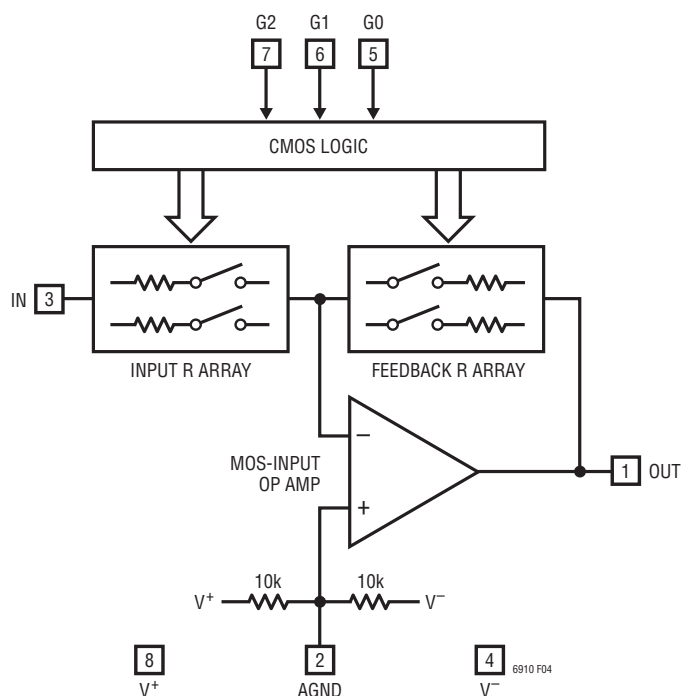
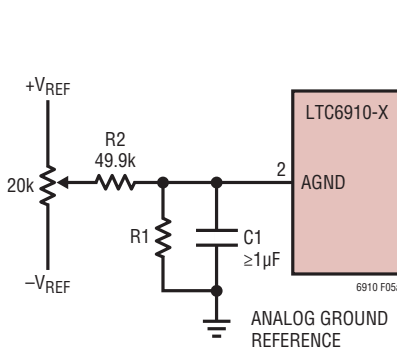

Figure 4. Block Diagram
Figure 5a. Offset Nulling
**AGND (Pin 2):** Analog Ground. The AGND pin is at the midpoint of an internal resistive voltage divider, developing a potential halfway between the  $V^+$  and  $V^-$  pins, with an equivalent series resistance to the pin of nominally 5k $\Omega$  (Figure 4). AGND is also the noninverting input of the internal op amp, which makes it the ground reference voltage for the IN and OUT pins. Because of this, very “clean” grounding is important, including an analog ground plane surrounding the package.
**IN (Pin 3):** Analog Input. The input signal to the amplifier in the LTC6910-X is the voltage difference between the IN and AGND pins. The IN pin connects internally to a digitally controlled resistance whose other end is a current summing point at the same potential as the AGND pin (Figure 4). At unity gain (digital input 001), the value of this input resistance is approximately 10k $\Omega$  and the IN voltage range is rail-to-rail ( $V^+$  to  $V^-$ ). At gain settings above unity (digital input 010 or higher), the input resistance falls. Also, the linear input voltage range falls in inverse proportion to gain. (The higher gains are designed to boost lower level signals with good noise performance.) Tables 1, 2, and 3 summarize this behavior. In the “zero” gain state (digital input 000), analog switches disconnect the IN pin internally and this pin presents a very high
The LTC6910 family are small outline, wideband inverting DC amplifiers whose voltage gain is digitally programmable. Each delivers a choice of eight voltage gains, controlled by the 3-bit digital inputs to the G pins, which accept CMOS logic levels. The gain code is always monotonic; an increase in the 3-bit binary number (G2 G1 G0) causes an increase in the gain. Table 1, Table 2 and Table 3 list the nominal voltage gains for LTC6910-1, LTC6910-2 and LTC6910-3 respectively. Gain control within each amplifier occurs by switching resistors from a matched array in or out of a closed-loop op amp circuit using MOS analog switches (Figure 4). Bandwidth depends on gain setting. Curves in the Typical Performance Characteristics section show measured frequency responses.
Settling time in the CMOS gain-control logic is typically several nanoseconds and faster than the analog signal path. When amplifier gain changes, the limiting timing is analog, not digital, because the effects of digital input changes are observed only through the analog output (Figure 4). The LTC6910-X's logic is static (not latched) and therefore lacks bus timing requirements. However, as with any programmable-gain amplifier, each gain change causes an output transient as the amplifier's output
The electrical tables list DC offset (error) voltage at the inputs of the internal op-amp in Figure 4,  $V_{OS(OA)}$ , which is the source of DC offsets in the LTC6910-X. The tables also show the resulting, gain dependent offset voltage referred to the IN pin,  $V_{OS(IN)}$ . These two measures are related through the feedback/input resistor ratio, which equals the nominal gain-magnitude setting, G:
Offset voltages at any gain setting can be inferred from this relationship. For example, an internal offset  $V_{OS(OA)}$  of 1mV will appear referred to the IN pin as 2mV at a gain setting G of 1, or 1.5mV at a gain setting of 2. At high gains,  $V_{OS(IN)}$  approaches  $V_{OS(OA)}$ . (Offset voltage can be of either polarity; it is a statistical parameter centered on zero.) The MOS input circuitry of the internal op amp in Figure 4 draws negligible input currents (unlike some op amps), so only  $V_{OS(OA)}$  and G affect the overall amplifier's offset.
Because internal op amp offset voltage  $V_{OS(OA)}$  is gain independent as noted above, offset trimming can be readily added at the AGND pin, which drives the noninverting input of the internal op amp. Such a trim shifts the AGND voltage slightly from the system's analog ground reference, where AGND would otherwise connect directly. This is convenient when a low resistance analog ground potential or analog ground reference exists, for the return of a voltage divider as in Figure 5a. When adjusted for zero DC output voltage when the LTC6910-X has zero DC input voltage, this DC nulling will hold at other gain settings also.
Figure 5a shows the basic arrangement for dual-supply applications. A voltage divider (R1 and R2) scales external reference voltages  $+V_{REF}$  and  $-V_{REF}$  to a range equaling or slightly exceeding the approximately  $\pm 10\text{mV}$  op amp offset-voltage range. Resistor R1 is chosen to drop the  $\pm 10\text{mV}$  maximum trim voltage when the potentiometer is set to either end. Thus if  $V_{REF}$  is 5V, R1 should be about  $100\Omega$ . Note also that the two internal 10k resistors in Figure 4 tend to bias AGND toward the mid-point of  $V^+$  and  $V^-$ . The external voltage divider will swamp this effect if R1 is much less than  $5\text{k}\Omega$ . When considering the effect of the internal 10k resistors, note that they form a Thévenin equivalent of  $5\text{k}$  in series with an open-circuit voltage at the halfway potential  $(V^+ + V^-)/2$ . (Although
With this trim technique in place, the remaining DC offset sources are drifts with temperature (typically  $6\mu\text{V}/^\circ\text{C}$  referred to  $V_{OS(OA)}$ ), shifts in the LTC6910-X's supply voltage divided by the PSRR factors, supply voltage shifts coupling through the two 10k internal resistors of Figure 4, and of course any shifts in the reference voltages that supply  $+V_{REF}$  and  $-V_{REF}$  in Figure 5a.
At a gain setting of 10V/V in an LTC6910-1 (digital input 100) and a 250ksps sampling rate in the LTC1864, a 10kHz input signal at 60% of full scale shows a THD of -87dB at the digital output of the ADC. 100kHz input signals under the same conditions produce THD values around -75dB. Noise effects (both random and quantization) in the ADC are divided by the gain of the amplifier when referred to  $V_{IN}$  in Figure 4. Because of this, the circuit can acquire a signal that is 40dB down from full scale of 5VP-P with an SNR of over 70dB. Such performance from an ADC alone (70 + 40 = 110dB of useful dynamic range at 250ksps), if available, would be far more expensive.